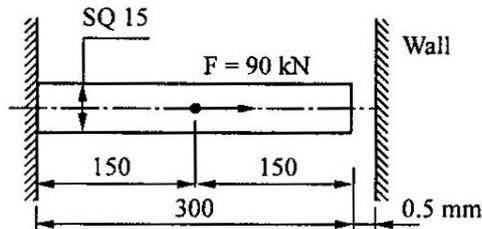

Figure 2
- Q.3 (a)** For the loading system as shown in Figure 2, determine the element stiffness matrix and global stiffness matrix. Assume modulus of elasticity as $80 \times 10^3 \text{ N/mm}^2$ **03**